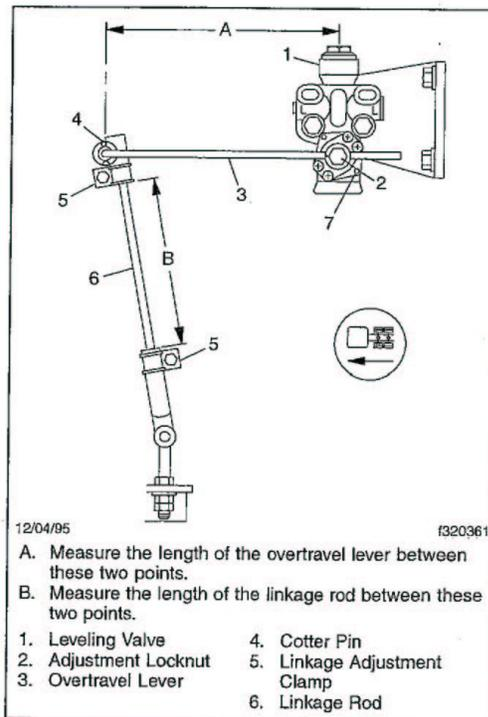

Fig. 2, Overtravel Lever and Linkage Rod Measurement
3. Check the length of the overtravel lever between its pivot points. See **Fig. 2**. The length should be 8 inches (203 mm). If needed, adjust the length of the overtravel lever.
3. Check the length of the suspension overtravel lever (see Fig. 2) between its pivot points. The overtravel lever should be from 5-3/4 inches to 6-1/4 inches (146 to 159 mm) long.